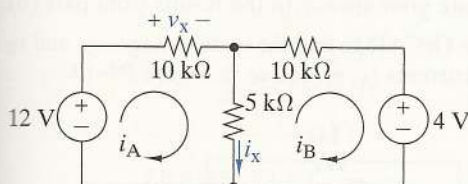

FIGURE P3-9
- 3-9 (a) Formulate mesh-current equations for the circuit in Figure P3-9.